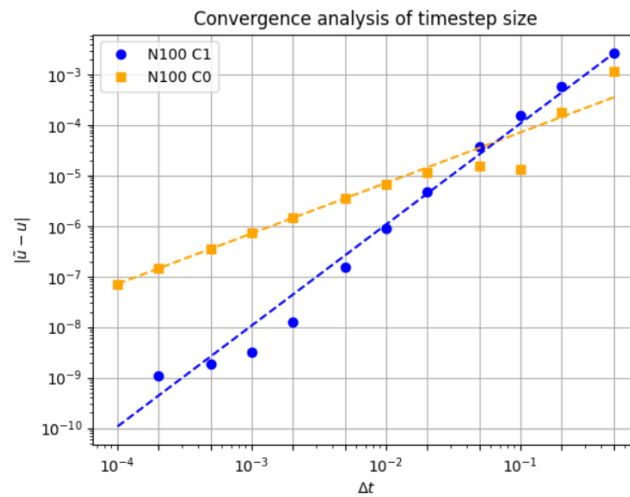

Figure 1 Figure comparing data to the analytical solution of Taylor green vortex.
- Explain how the error is computed, while commenting Figure 1.